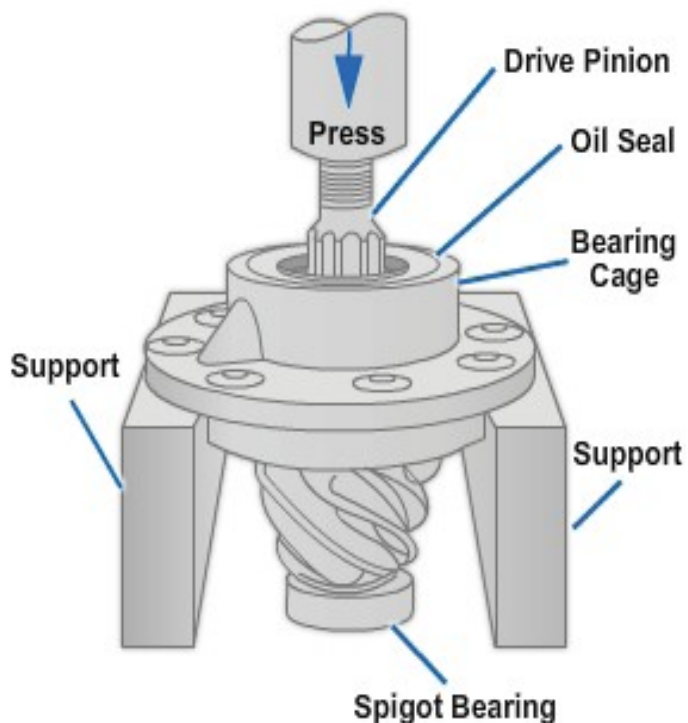

Figure 8-78 – Pressing the drive pinion from the bearing cage.
3. Press the drive pinion through the bearing cage (*Figure 8-78*). Do not allow the pinion to fall to the floor from the press when the bearing is free.